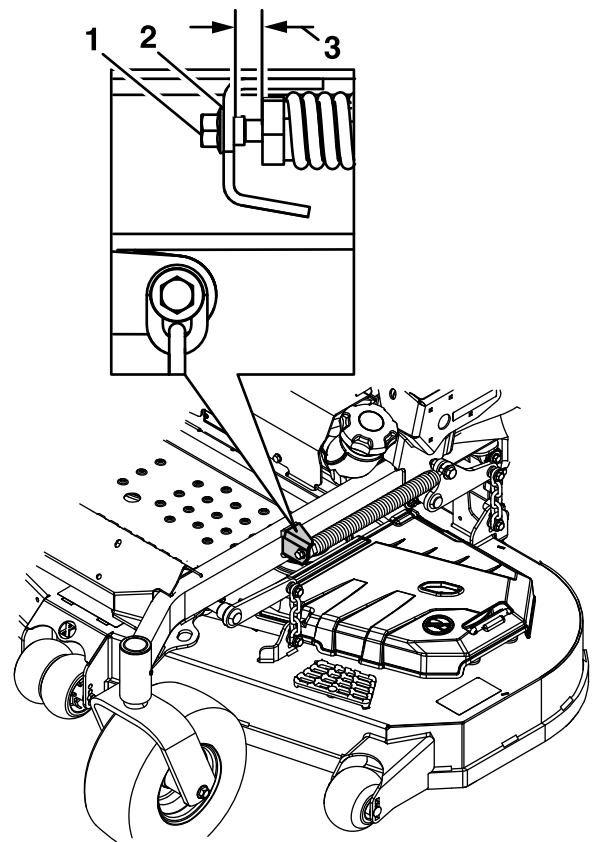

Figure 31
9. Slowly loosen the adjusting screw on the lift assist spring until the screw can be removed (see Figure 31). Save the screw for reinstallation.